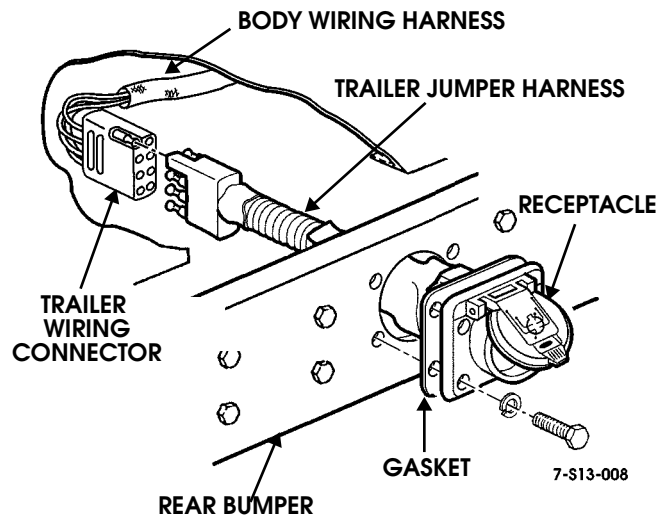

Figure 13-43: Trailer Jumper Harness Mounting
2. Insert the trailer jumper harness through the rear bumper cutout and bolt the receptacle in place (Figure 13-43).